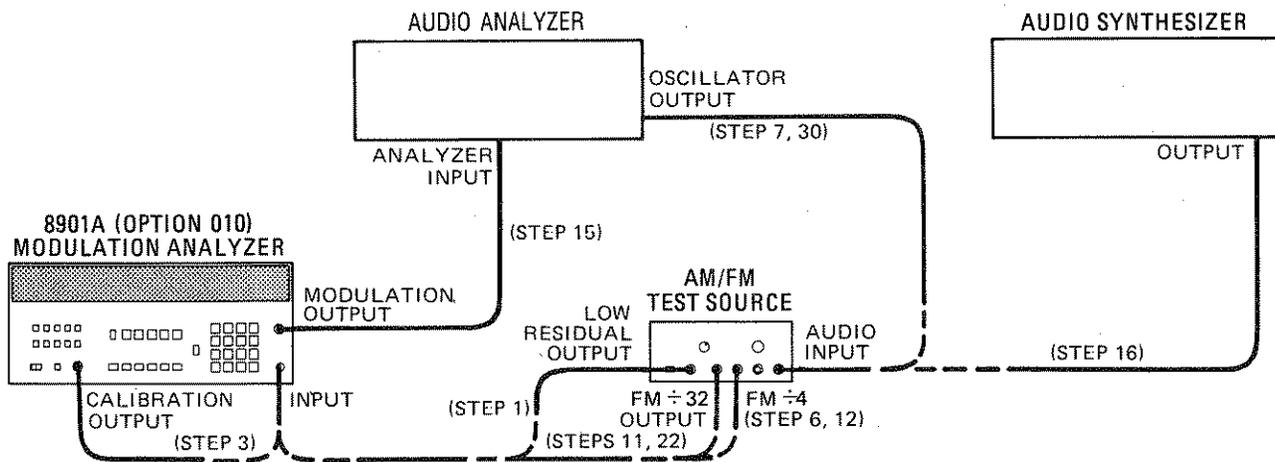

Figure 4-3. FM Performance Test Setup
1. On the AM/FM test source, set the test mode to residual FM. Connect its low-residual (560 MHz) output to the Modulation Analyzer's INPUT. (See figure 4-3.)
3. Connect the Modulation Analyzer's CALIBRATION OUTPUT to the INPUT. (See figure 4-3.)
6. On the AM/FM test source, set the test mode to FM. Connect its FM÷4 output to the Modulation Analyzer's INPUT. (See figure 4-3.)
7. Set the audio analyzer's source to 10 kHz at 0.5 V. Connect its output to the audio input of the AM/FM test source. (See figure 4-3.)
11. Connect the FM÷32 output of the AM/FM test source to the Modulation Analyzer's INPUT without disturbing the AM/FM test source's controls. (See figure 4-3.) Multiply the displayed ratio on the Modulation Analyzer by the calibration factor of step 4. (For example, if the display reads 12.52% REL and the calibration factor of step 4 is 100.4%, the result is $12.52 \times 100.4 = 12.57\%$ REL.) The result should be between 12.35 and 12.65% REL.
12. Connect the FM÷4 output of the AM/FM test source to the Modulation Analyzer's INPUT. (See figure 4-3.)
- Connect the audio analyzer's input to the Modulation Analyzer's MODULATION OUTPUT. (See figure 4-3.) Set the audio analyzer to measure the distortion on the 100 kHz signal at the MODULATION OUTPUT (all audio analyzer filters should be off). The distortion should be 0.1% or less (-60 dB or less).
- Set the audio synthesizer to 10 kHz at +5 dBm. Connect its output to the audio input of the AM/FM test source. (See figure 4-3.) Fine adjust the level for a Modulation Analyzer display of 100 kHz times the calibration factor of step 5. (For example, if the calibration factor of step 5 is 100.4%, set the level for a display of 100.4 kHz.)
- Connect the FM÷32 output of the AM/FM test source to the Modulation Analyzer's INPUT. (See figure 4-3.)
30. Set the audio analyzer's source to 10 kHz at 2 V. Connect its output to the audio input of the AM/FM test source. (See figure 4-3.) Fine adjust the oscillator level for a Modulation Analyzer display of 10 kHz peak deviation.